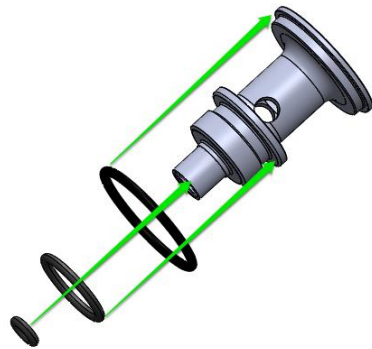

Fig. 34
- a. Lightly lubricate and install on the receiver O-rings 6510 and 2.021 onto the receiver 8041.8. Install the HP poppet O-ring V2.007.90 into the inner bore of the receiver 8041.8 (Fig. 34). Lightly lubricate the threads of the receiver 8041.8.